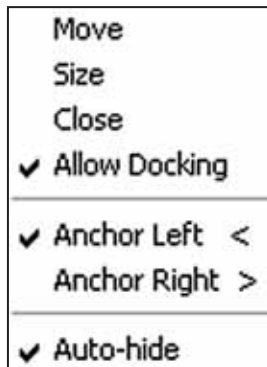

Figure 5. The Recent Input option makes it easy to find recently used values.
- A Recent Input option appears on your shortcut menus, making it easy to recall a previously used value (Figure 5).